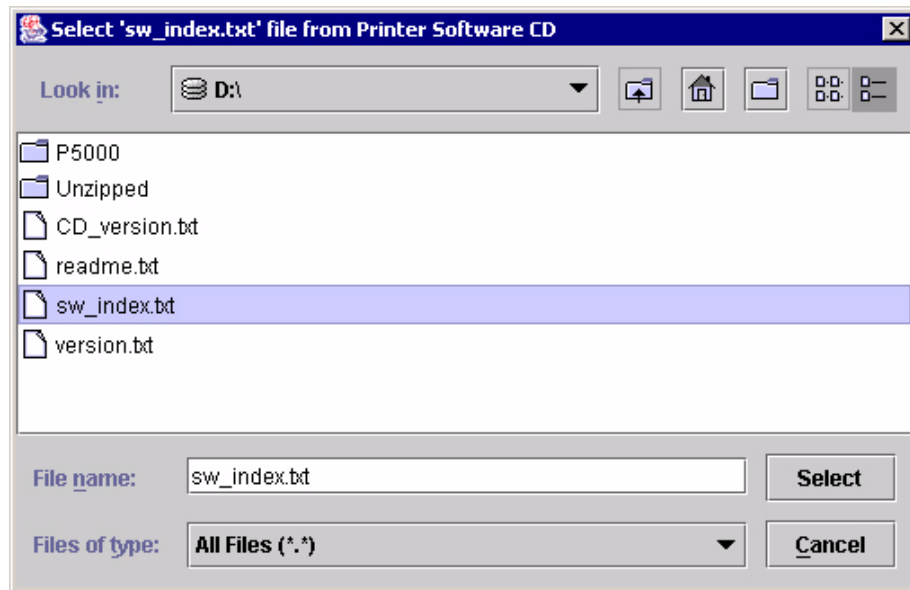

Figure 91. Selecting the 'sw_index.txt' File
13. Click the **sw_index.txt** file. The file highlights and the file name appears in the File name field. See Figure 91.